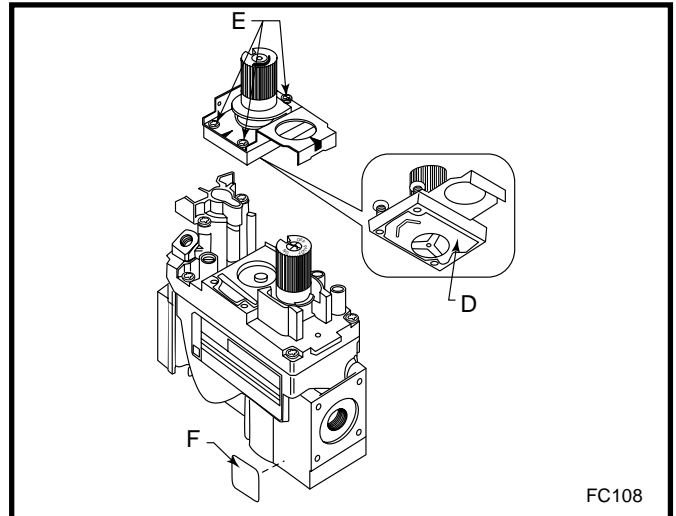

Fig. 56 Replace regulator.
2. Insure the rubber gasket (D) is properly positioned and install the new HI/LO pressure regulator assembly to the valve using the new screws (E) supplied with the kit. Tighten the screws securely. (Ref. torque = 25 in/lb) (Fig. 56)
3. Install the enclosed conversion label (F) to the valve body where it can easily be seen. (Fig.56)